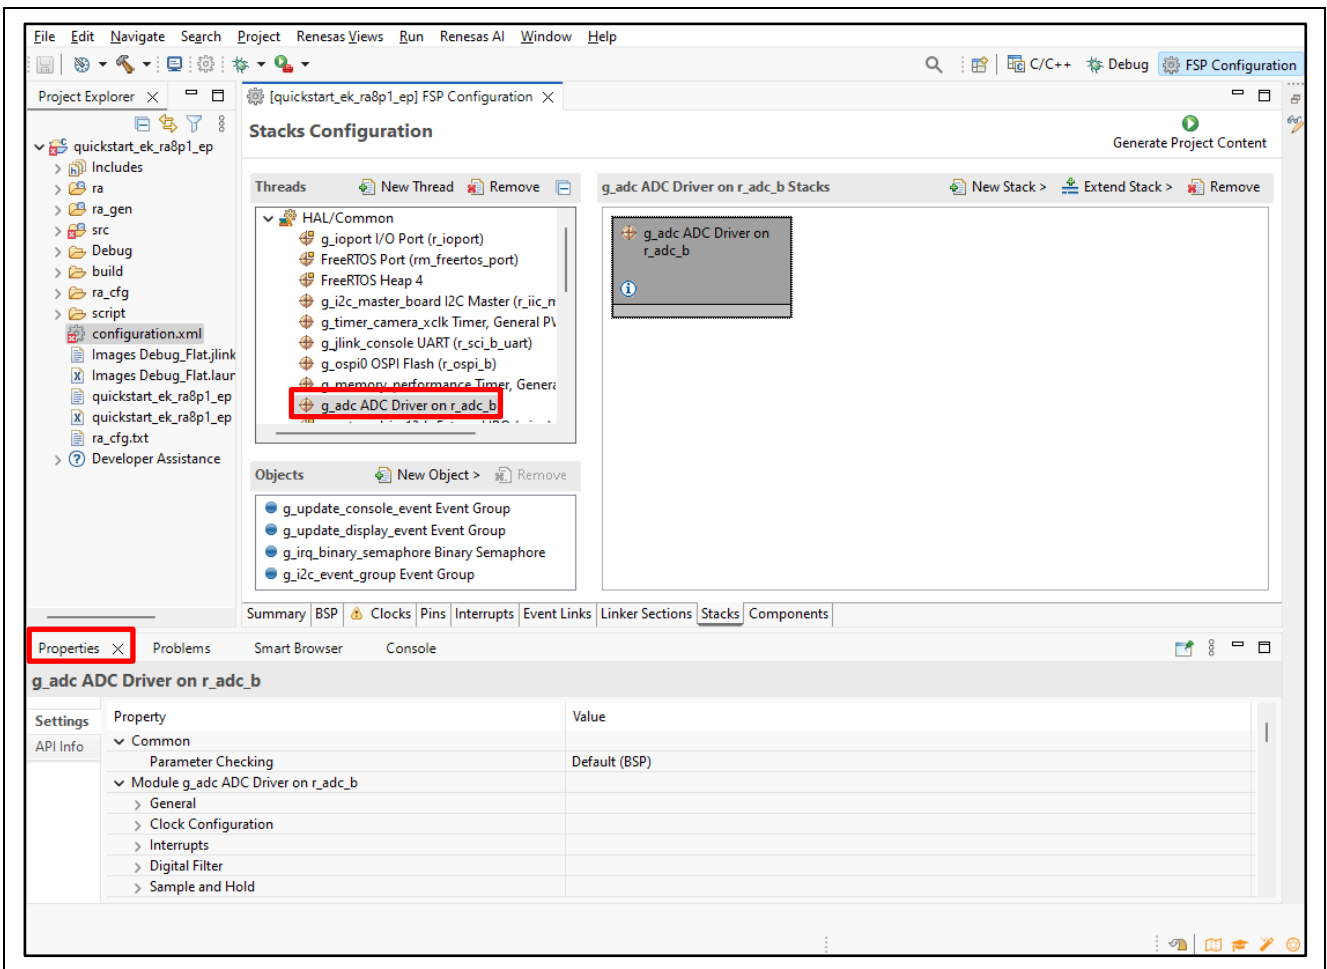

Figure 32. Modifying the Configuration Settings
- For example, in the **Stacks** tab of the FSP configuration, the user can click to select modules to modify the configuration settings, as required, in the **Properties** tab. Figure 32 illustrates modifying the **ADC** driver configuration.